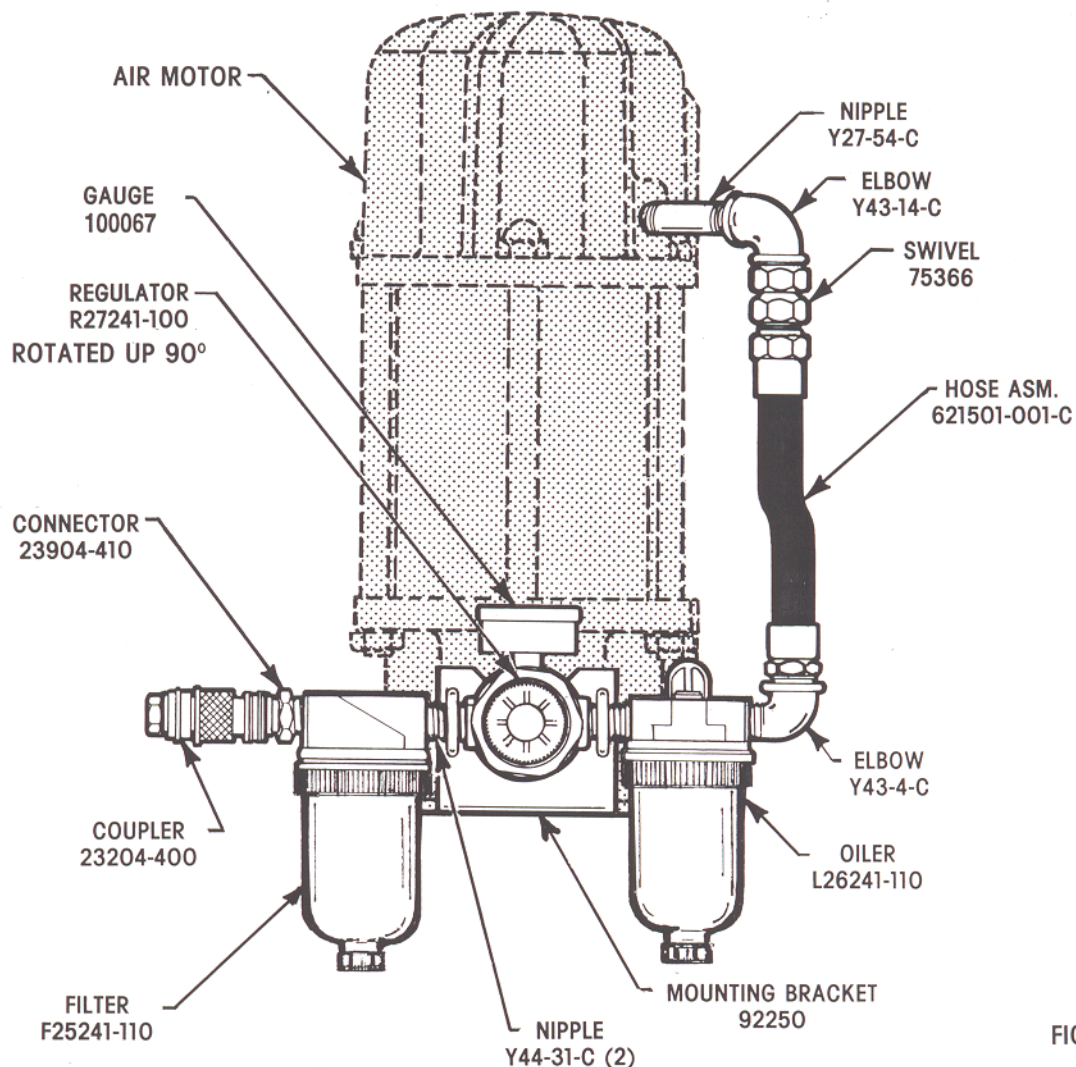

FIGURE 1
2. Lift the Pump Assembly enough to allow positioning of 92250 Bracket and 92174 (2) Spacers (see figures 1 and 2).
5. Connect the Y27-54-C Nipple and Y43-14-C Elbow to the Air Motor air inlet (see figure 1).
6. Connect the 75366 Swivel (and 621501-001-C Hose Assembly) to the Y43-14-C Elbow and complete assembly as shown (see figure 1).